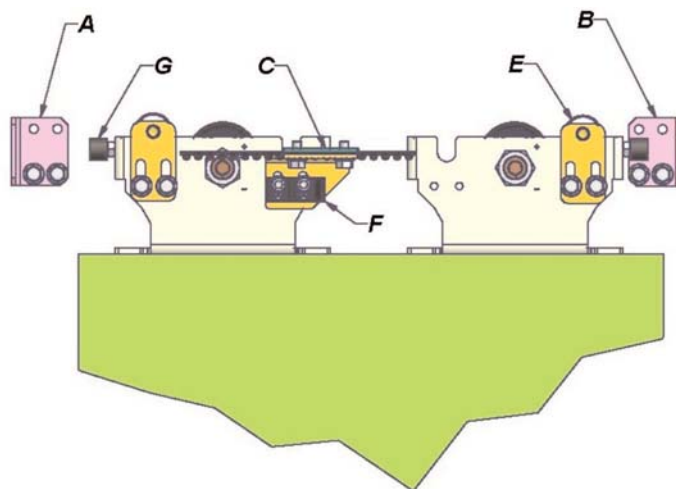

Fig. 24
- **Fig. 24** part. **C** with 1 wing automatism and left opening